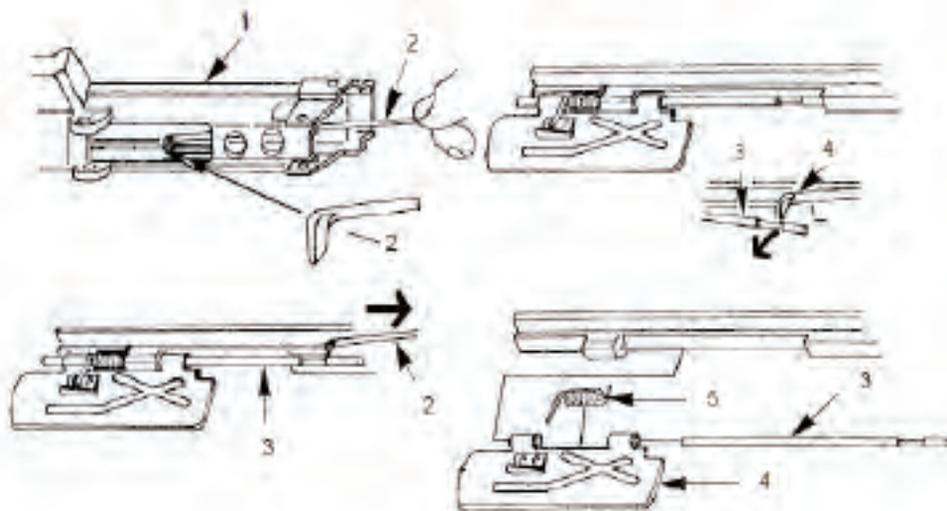

Figure 14. Removal of Ejection Port Cover.
- Reach inside receiver assembly (Figure 14, Item 1) with combination tool (Figure 14, Item 2) and lift out grooved headless pin (Figure 14, Item 3) from raised edge. At the same time, pull grooved headless pin (Figure 14, Item 3) to rear of receiver assembly (Figure 14, Item 1). Separate grooved headless pin (Figure 14, Item 3), ejection port cover (Figure 14, Item 4), and torsion spring (Figure 14, Item 5).
2. If catch (Figure 14, Item 6) cannot keep ejection port cover (Figure 14, Item 4) latched, or if legs of torsion spring (Figure 14, Item 5) are bent or broken, replace.
3. If ejection port cover (Figure 14, Item 4) is cracked or bent, or catch (Figure 14, Item 6) is loose, replace.
4. Visually inspect grooved headless pin (Figure 14, Item 3) for bends, breaks, or burrs and replace if damaged.